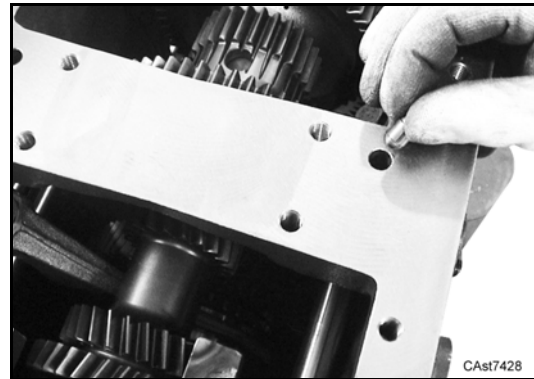
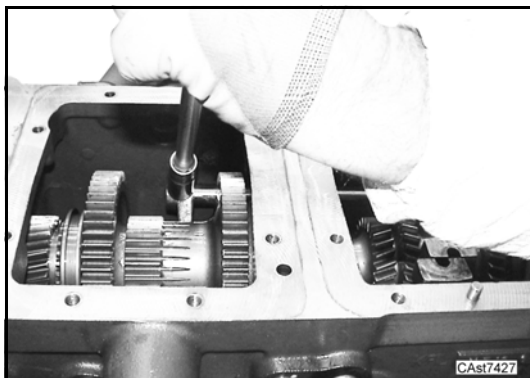

Figure 27
fig. 26
- 37. Centre fork (45) in neutral position.
- 38. Tighten screw (43) to the requested torque.
- Refer to: figure 26 and section C.4.
- 39. Insert split pin (52) into the block (53).
- 41. Assemble plug (54).
- 42. Insert lock pin (50)
- Refer to: figure 27 and 28.